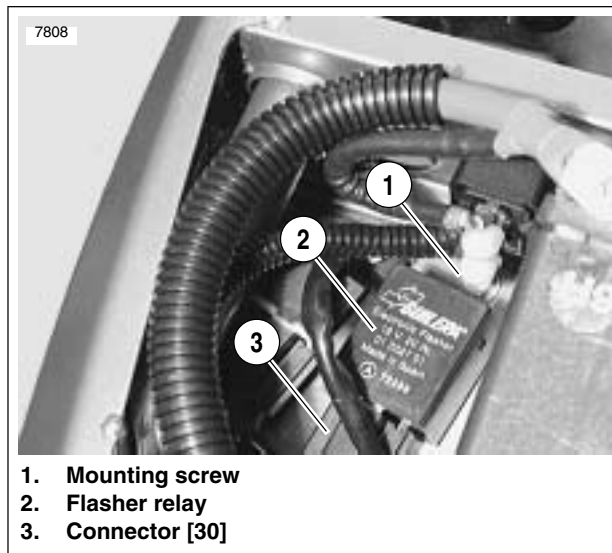

Figure 7-70. Turn Signal Flasher
4. See Figure 7-70. Remove screw and flasher relay from frame tray.
1. See Figure 7-70. Connect relay connector [30] to **new** turn signal flasher relay.